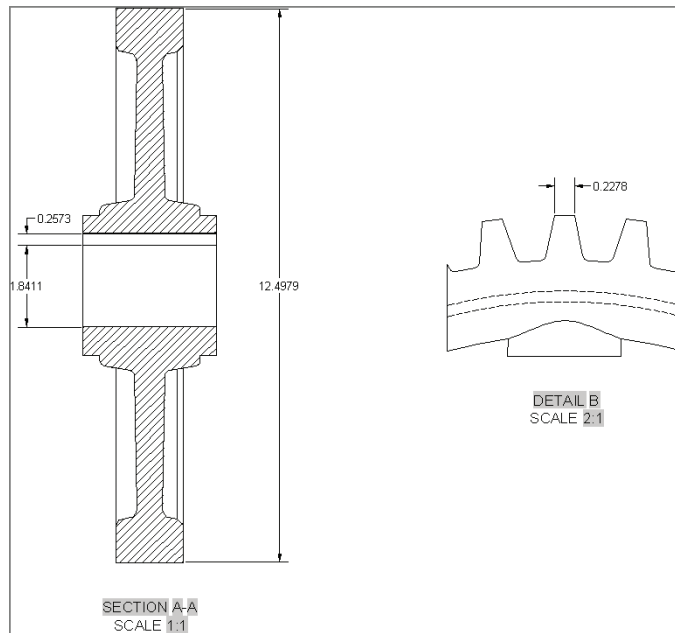

FIGURE 18.26 Associating dimensions with section and detail views
13. Toggle on object snap in the status bar. Switch to the Annotate tab on the ribbon, and select the Linear tool in the Dimensions panel. Dimension the features shown in Figure 18.26. These dimensions are associated with the section and detail views, which in turn are associated with the base view, which is in turn associated with the model. If you were to change the gear geometry in modelspace, views and dimensions would automatically update on the layout.